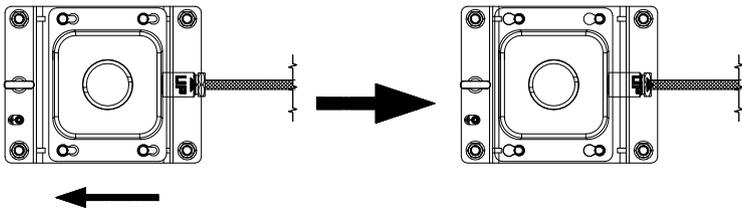

Figure 2-14 Install Bracket to Installation Plate
- c. Hang the speed dome to the bracket by aligning the holes of bracket with the screws and move the speed dome following the direction in Figure 2-14 to secure the speed dome.